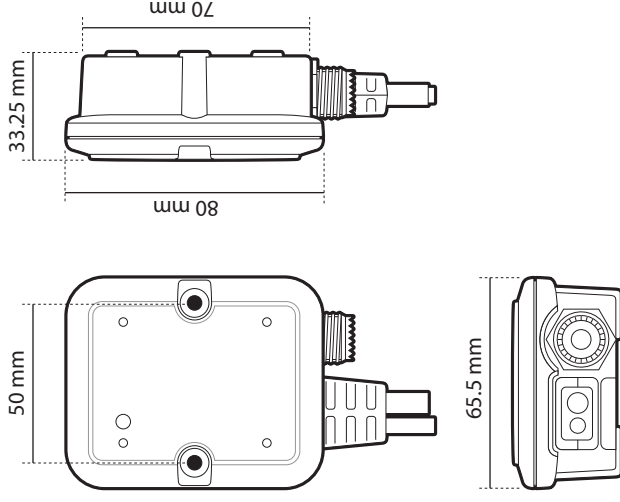

Figure 5 AIS RX-100 dimensions
- There should be adequate space around the AIS RX-100 for routing of cables. See Figure 5 for details of the AIS RX-100 dimensions.